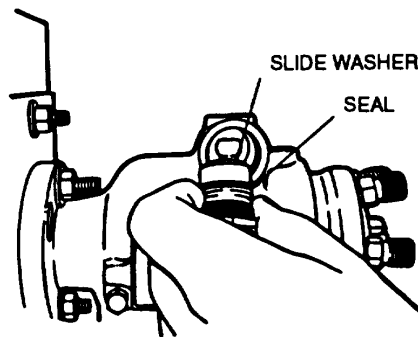

FIGURE 3-61. Power Side Advance Piston (Typical)
- aa. Remove power side advance piston hole plug (65) and power piston (66), refer to FIGURE 3-61.